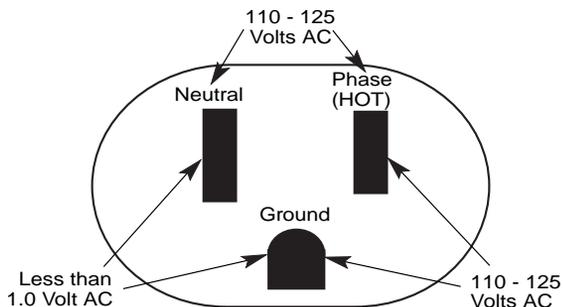

Figure 2-2. Measuring the AC Outlet Voltages
2. Measure the AC outlet voltages. See Figure 2-2.